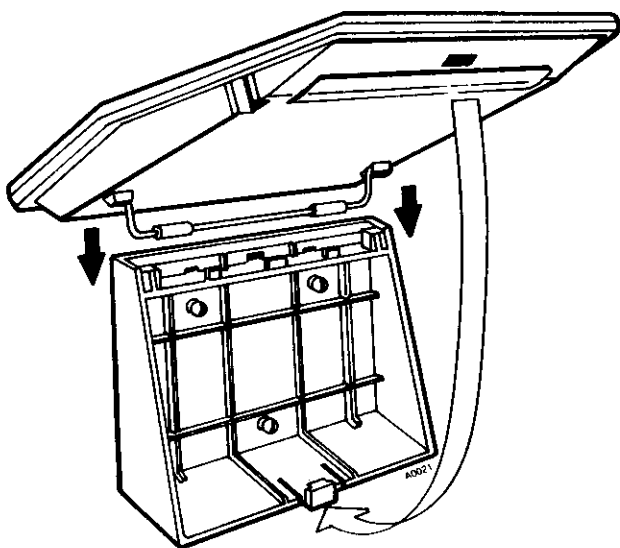

Figure 2 SECURING TELEPHONE IN BRACKET, EK-616
- *Place telephone stand in bracket (Figure 2).*